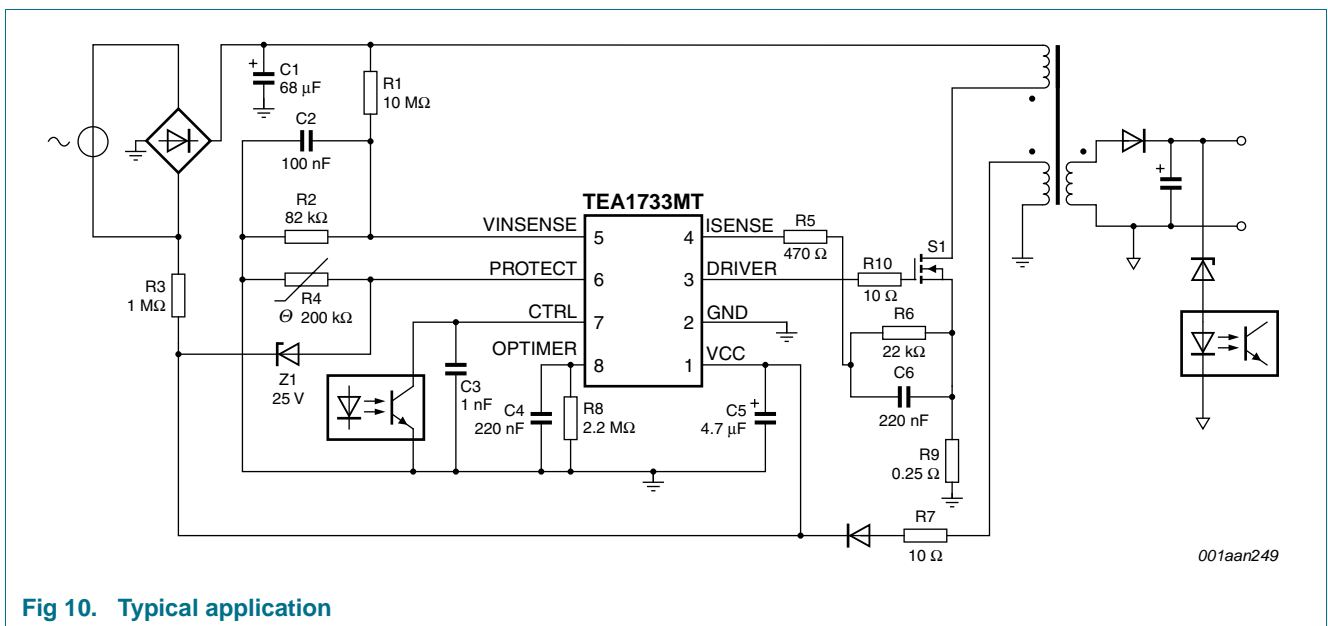

Fig 10. Typical application
A power supply with the TEA1733MT is a flyback converter operating in Continuous conduction mode (see Figure 10).
In the example shown in Figure 10, the PROTECT pin is used for OVP and OTP. The OVP level is set by diode Z1 to $V_{CC} = 25.8$ V. The OTP level is set by Negative Temperature Coefficient (NTC) resistor R4. The VINSENSE pin is used for mains voltage detection and resistors R1 and R2 set the start voltage to about 80 V (AC). The overpower protection time is defined by capacitor C4 at 60 ms.